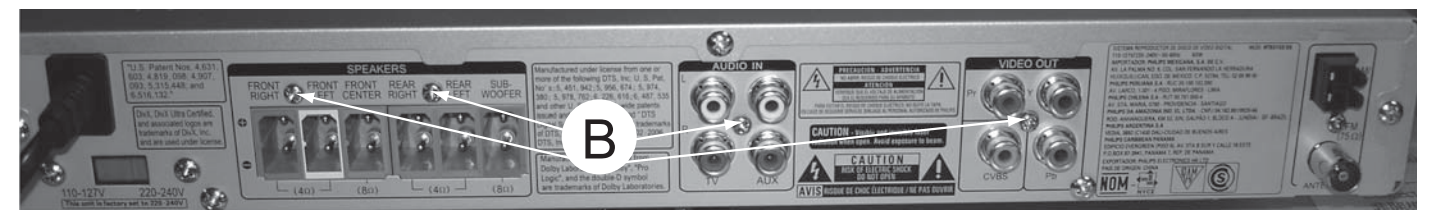

Figure 5
- 2) Loosen 4 screw "B" at the back panel as shown in figure 5.